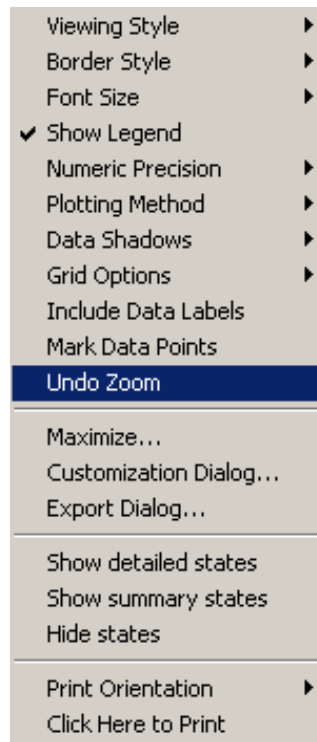

Figure 2.9 Plot options menu
2. To zoom out to the original plot view, right click inside the plot to bring up the plot options menu and select **Undo Zoom** as shown in Figure 2.9.
2. Select **Customization Dialog** (See Figure 2.9)